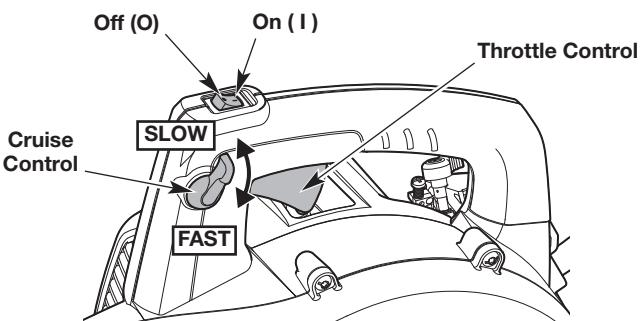

Fig. 3
- NOTE:** There is no need to turn the unit on. The On/Off switch is in the ON (!) position at all times (Fig. 3).
4. Move the cruise control to the **SLOW** position (Fig. 3).
- NOTE:** Keep the cruise control in the **SLOW** position and **DO NOT** squeeze the throttle control until step 9 (Fig. 3).
8. **DO NOT** squeeze the throttle control. Idle the engine for 5 to 10 seconds. If the unit stops during this time, squeeze and hold the throttle control or move the cruise control to the **FAST** position (Fig. 3), then pull the starter rope in a controlled and steady motion until the unit starts.
9. Squeeze and hold the throttle control or move the cruise control to the **FAST** position (Fig. 3). Allow the engine to warm up for 30 to 60 seconds.
2. Press and hold the On/Off switch in the **OFF (O)** position until the engine comes to a complete stop (Fig. 3).
- Use the cruise control to make continuous operation easier (Fig. 3).